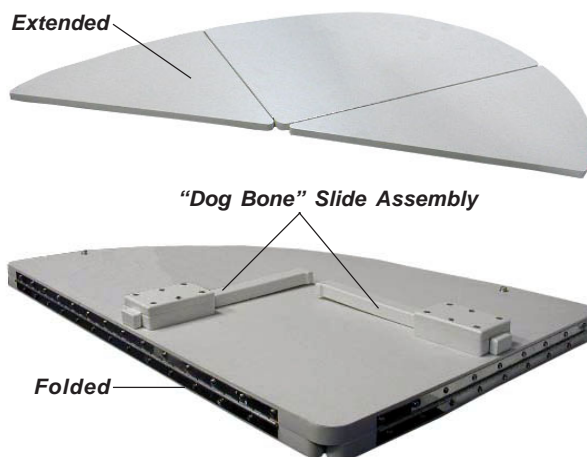

Figure N13: Cockpit/Fill-In Table
4. Unfold cockpit table, be sure to utilize the “dog bone” sliding supports. Simply slide “dog bone” sliding supports into support positions. See Figure N13.